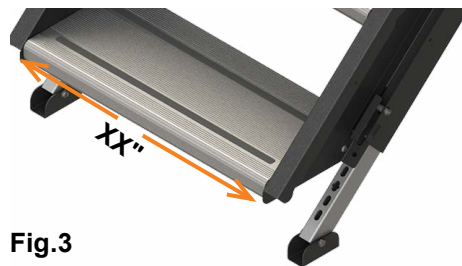

Fig.3
A. Measure the tread width on the SolidStep (**Fig.3**)